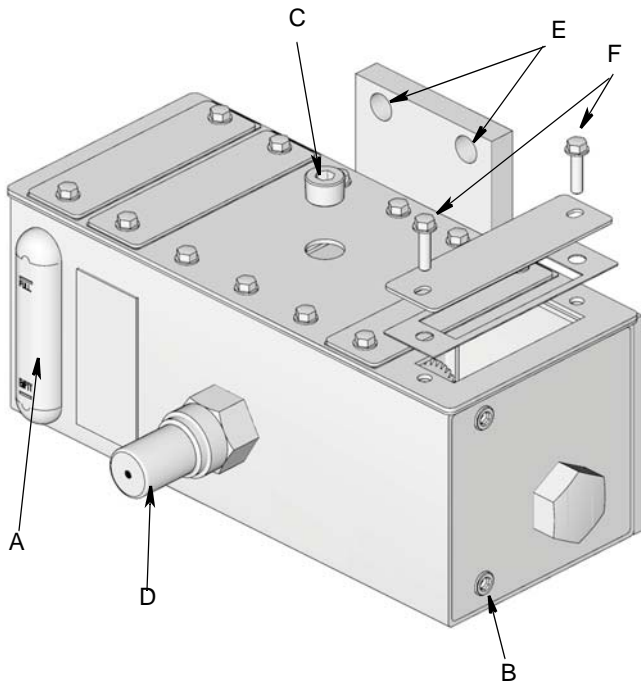

FIG. 1
Reference letters used in the following instructions, refer to FIG. 1.
- d. Replace pumping units. Torque mounting screws (F) (FIG. 1) to 110 in. lbs \pm 10 in. lbs. (12.43 N.m \pm 1.13 N.m).
- e. Apply thread sealant (user supplied) to drain plug (C) (FIG. 1) and replace. Torque to 35 in. lbs \pm 5 in. lbs. (3.95 N.m \pm 0.6 N.m).
- a. Drain reservoir by removing drain plug (C) (FIG. 1). Dispose of oil according to all applicable safety regulations.